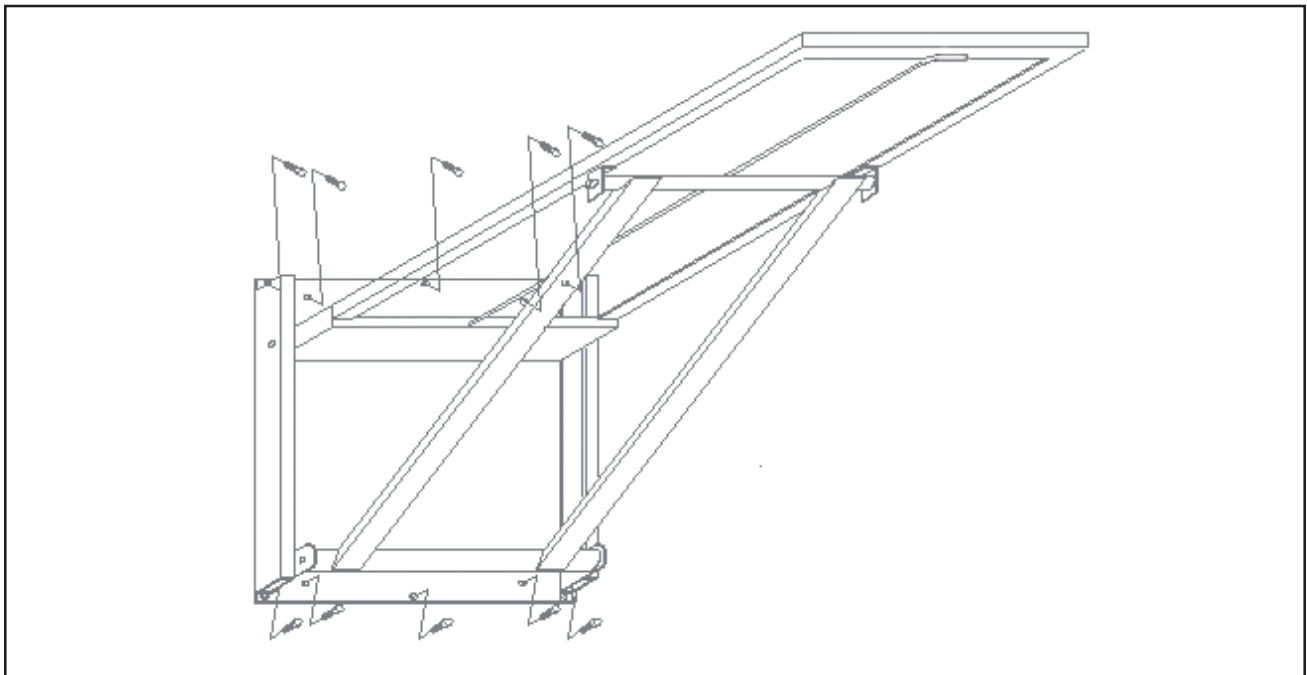

Figure 4. Installation of Table to the Wall
3. Using the hardware suitable to the type of wall, mount the table to the wall with screws or bolts through the ten holes (Figure 4).